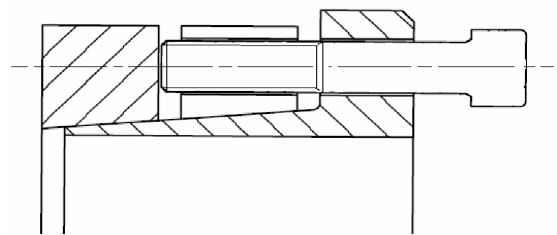

Fig. 3
3. Similarly the thrust ring 2 is released as per figure 3.